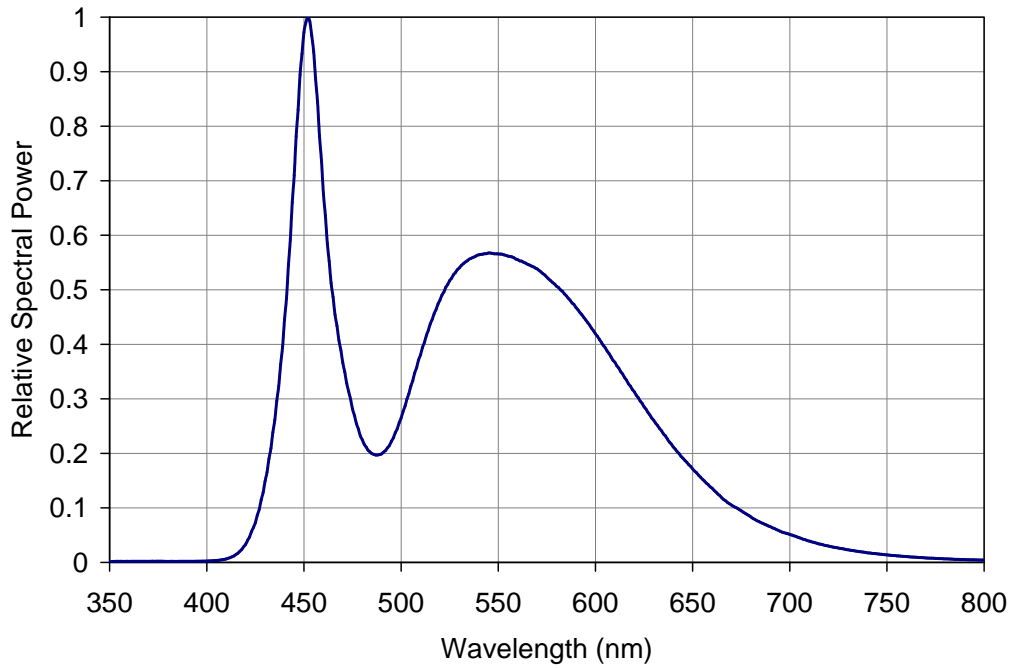

Figure 5: Typical relative spectral power vs. wavelength @ T_C = 25°C.
- Solder conditions per JEDEC 020D. See Reflow Soldering Profile Figure 5.